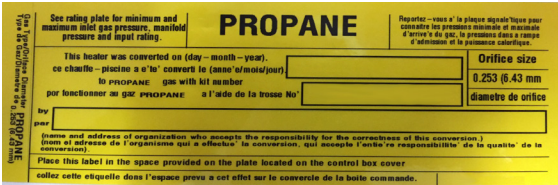

Figure 10.
18. If the combustion is satisfactory and the exhaust analysis is within the range, complete the conversion by attaching the conversion plate and label. See Figure 10.